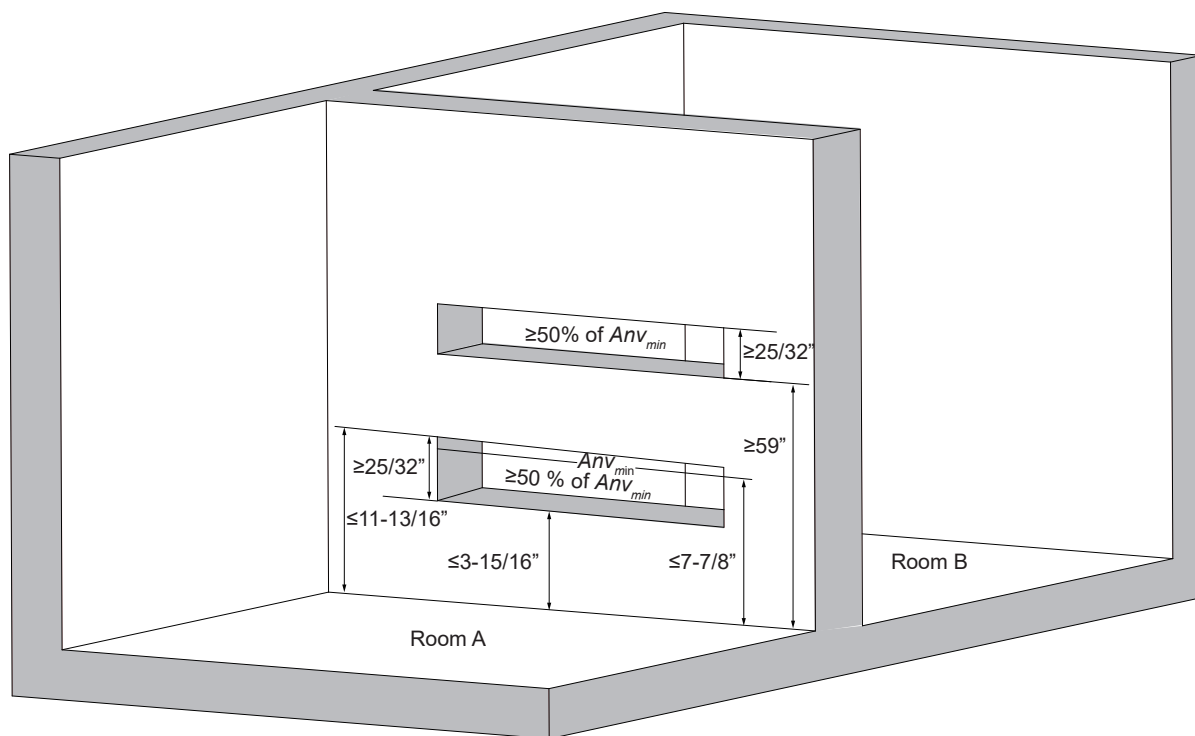

Figure 2-1 Opening conditions for connected rooms
- For determination of room area (A) when used to calculate the refrigerant charge limit, the following shall apply.
- The room area (A) shall be defined as the room area enclosed by the projection to the base of the walls, partitions and doors of the space in which the appliance is installed.
- The area of the connected rooms, on the same floor, connected by permanent opening in the walls and/or doors between occupied spaces, including gaps between the wall and the floor, can be considered a single room when determining compliance to A_{min} , provided all of the following conditions are met as Figure 2-1.
- ① The opening shall not be less than Anv_{min} in Table 2-1 or Table 2-2.
- ② The area of any openings above 11-13/16 inches (300 mm) from the floor shall not be considered in determining compliance with Anv_{min} .
- ③ At least 50 % of the opening area of Anv_{min} shall be below 7-7/8 inches (200 mm) from the floor.
- ④ The bottom of the opening is not more than 3-15/16 inches (100 mm) from the floor.
- ⑤ The opening is a permanent opening that cannot be closed.
- ⑥ For openings extending to the floor the height shall not be less than 25/32 inches (20 mm) above the surface of the floor covering.
- ① The opening shall not be less than 50 % of Anv_{min} in Table 2-1 or Table 2-2.
- ② The opening is a permanent opening that cannot be closed.